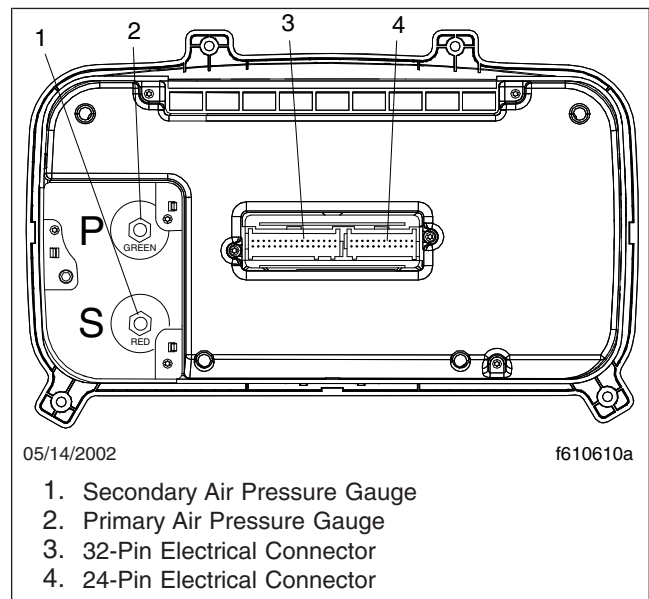

Fig. 3, ICU3, Rear View
- Disconnect the two electrical connectors from the back of the ICU. See Fig. 3.